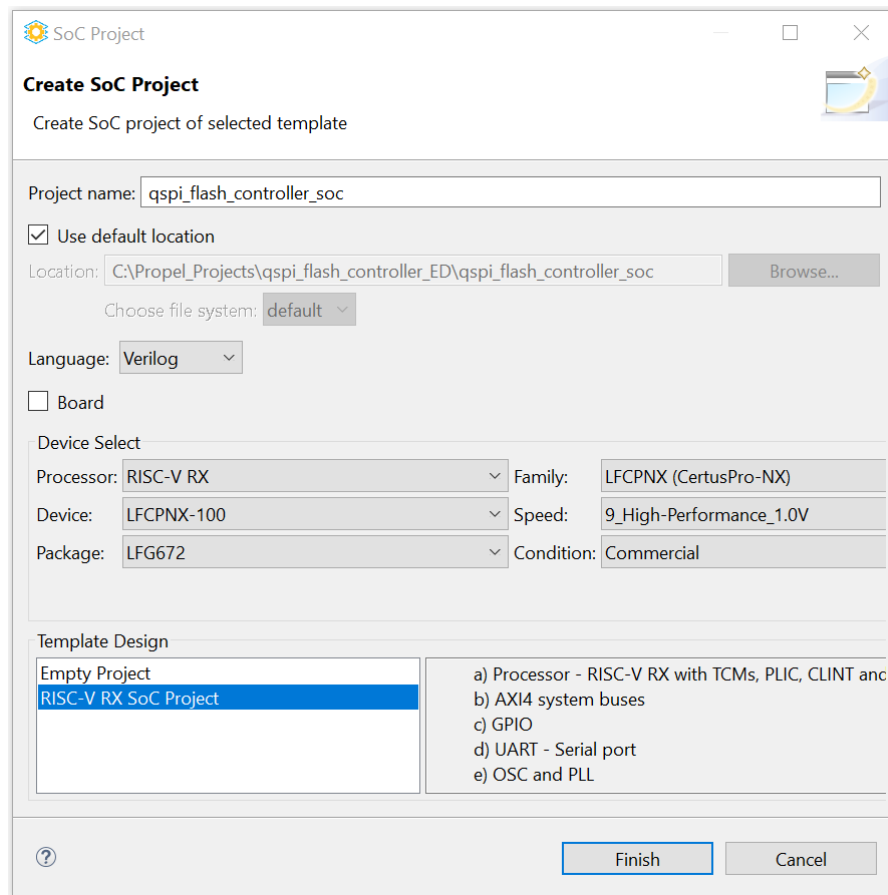

Figure 6.4. Create SoC Project
2. Create a new SoC design project by selecting **File > New > Lattice SoC Design Project**. The **Create SoC Project** window opens as shown on Figure 6.4. Enter a name for the SoC project in the **Project name** field. Customize the options under **Device Select** using drop-down menus or configure it through the **Board** option. Then, select the **Template Design**. For this example design, RISC-V RX processor, LFCPNX-100-9LFG672C board, and RISC-V RX SoC Project are used. Then, click **Finish**.